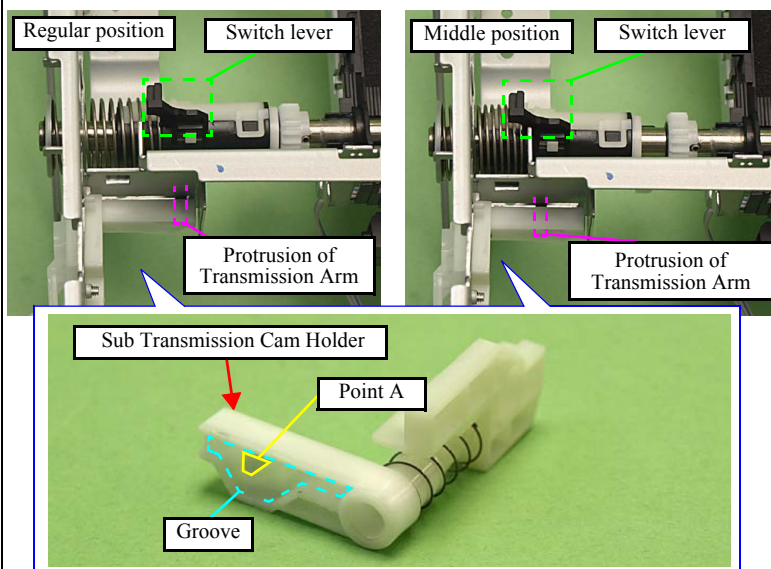

Figure 4-153. Installing the Sub Transmission Cam Holder
- Align the protrusion of the Transmission Arm with the groove of the Sub Transmission Cam Holder. (See Fig. 4-153.)